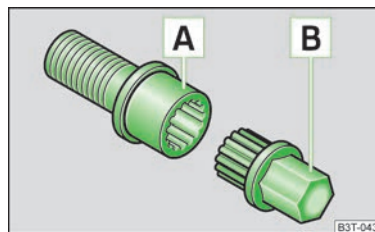

Fig. 176
- \gg Insert the adapter **B** \gg Fig. 176 with its toothed side fully into the inner toothed side of the safety wheel bolt **A** until the stop so that only the outer hexagon is jutting out.